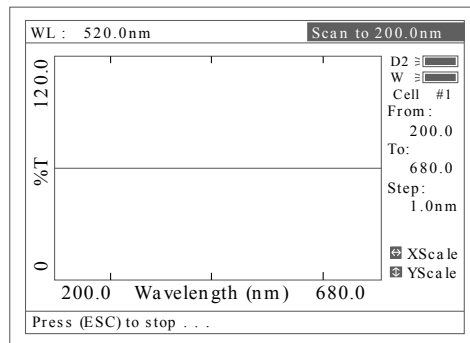

Fig 44
- Push the blank cuvette into the light path, press **[0Abs/100%T]** to scan the base line (Fig 44). Press the key **[ESC/STOP]** to stop scanning;